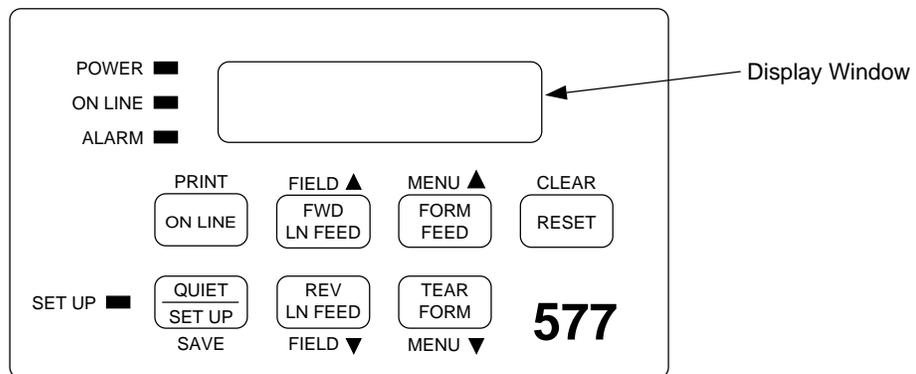

Figure 8-1. Model 577 ROP Control Panel
1. Ensure that the ROP is off-line. If `OFFLINE` does not appear in the display window, press the **ON LINE** button. See Figure 8-1.